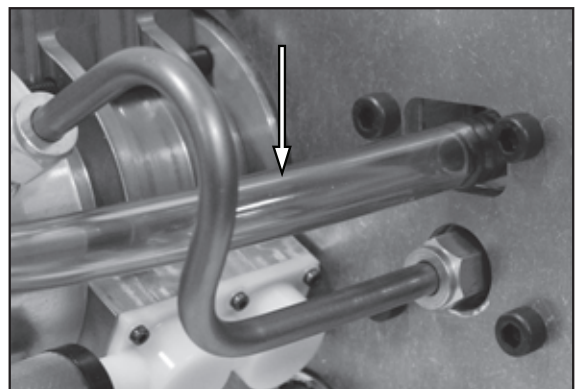

Figure 57.
2. See Figure 57. Remove the hose.